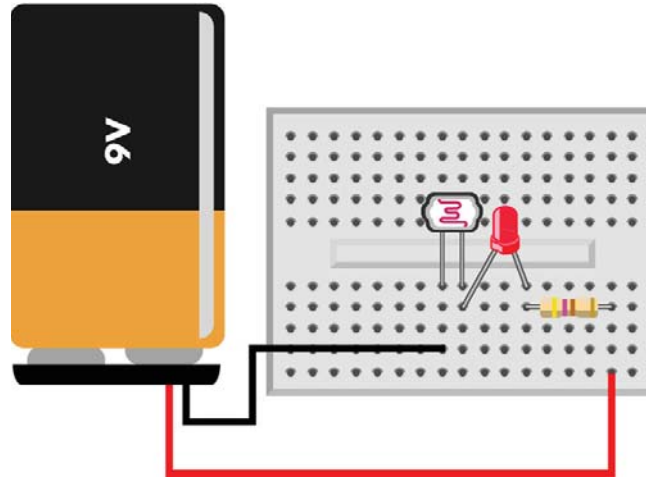

Figure 1-5. Circuit diagram for photoresistor project
1. Orient your breadboard so that it is wider than it is tall, as shown in Figure 1-5.
LED lead should occupy its own column for now. Refer back to Figure 1-5 to see how they should be arranged.
7. Double-check the steps and if everything looks like Figure 1-5, connect the 9 V battery.